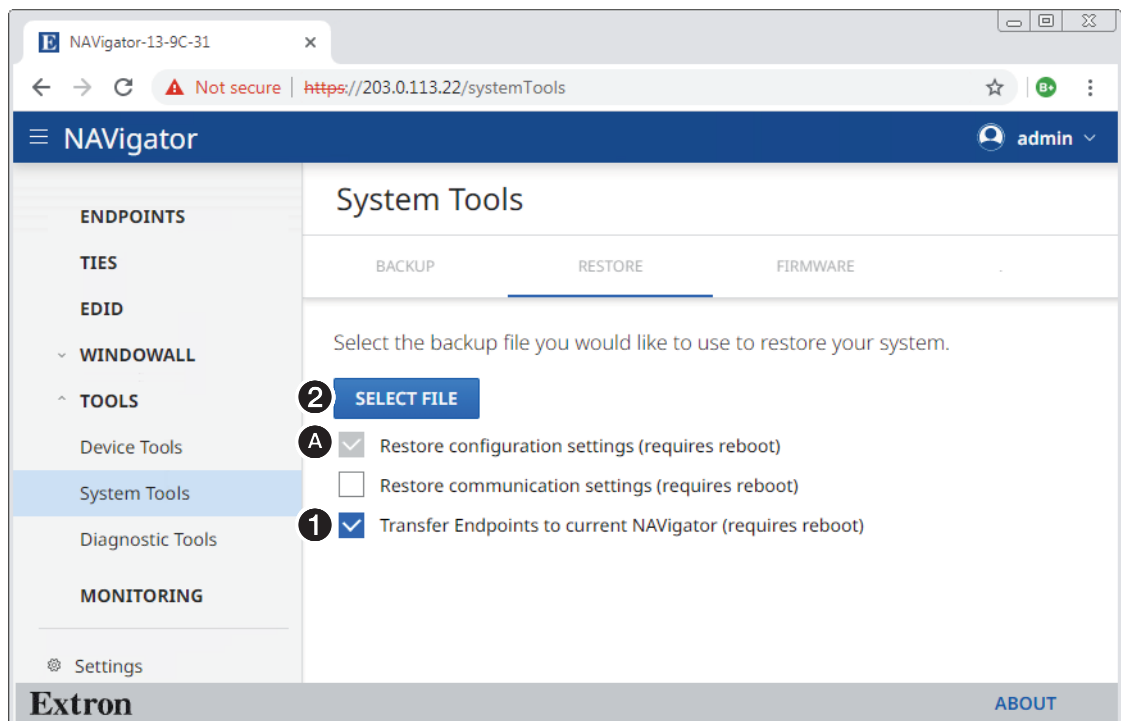

Figure 84. Transferring System Configuration
5. Select (click) **Transfer Endpoints to current NAVigator (requires reboot)** (see figure 84, ❶).